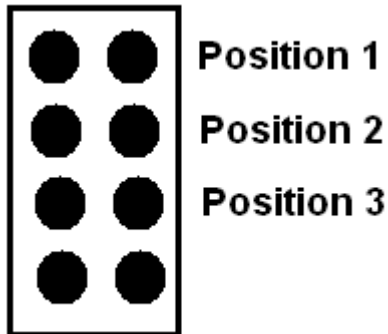

Figure 4
4. Referring to Figure 4 below, install a jumper in position 3 of header jumper JP2.
11. Referring to Figure 4, install a jumper in position 2 of header jumper JP2.
16. Referring to Figure 4, install a jumper in position 1 of header jumper JP2. This position puts the board into the learn mode for the floor landings.